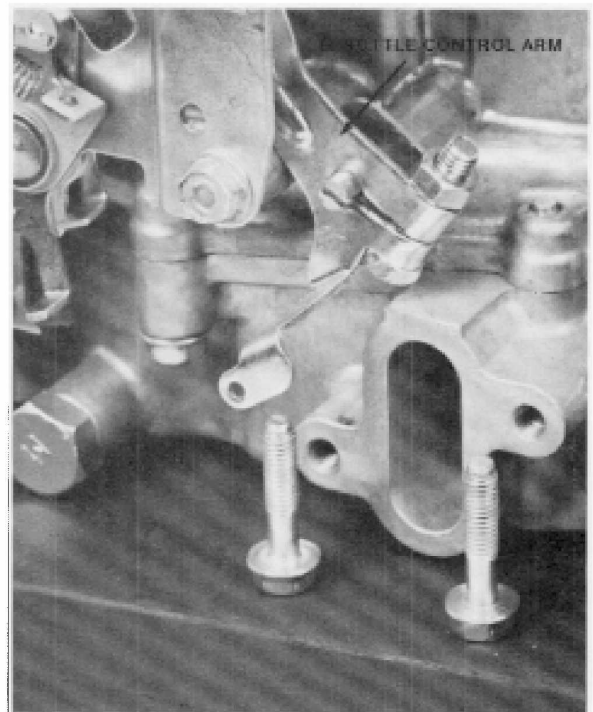

Figure 4-60
2. Install the throttle control arm (governor arm) on the governor shaft — do not tighten the retaining nut at this time. See Fig. 4-60.